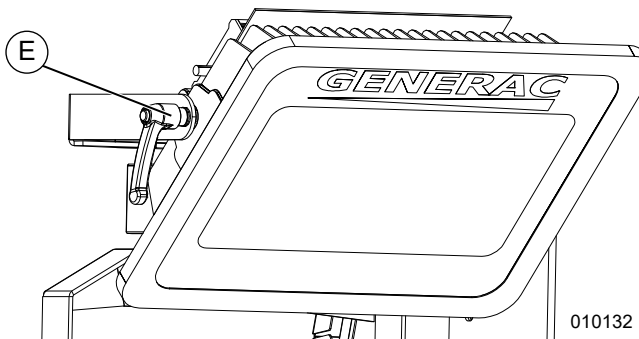

Figure 3-3. Adjusting LED Fixture
- See **Figure 3-3**. Before raising the mast, adjust the LED fixtures by loosening handle (E) and aiming the LED in the desired direction. After adjusting, tighten the handle.